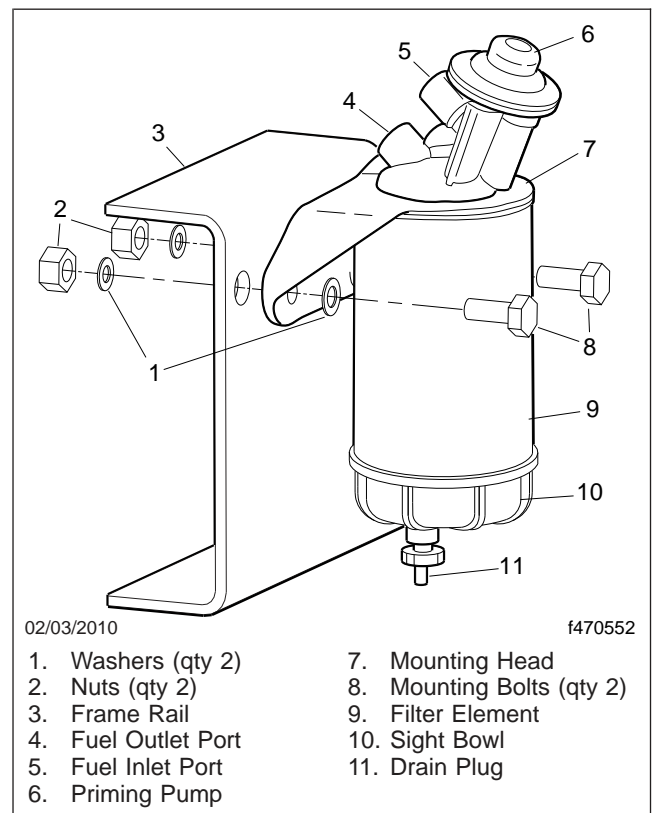

Fig. 11.9, Alliance Fuel/Water Separator Assembly and Installation
- 4.3 *Alliance/Racor Models:* Turn the drain plug counterclockwise to open it. See Fig. 11.9.